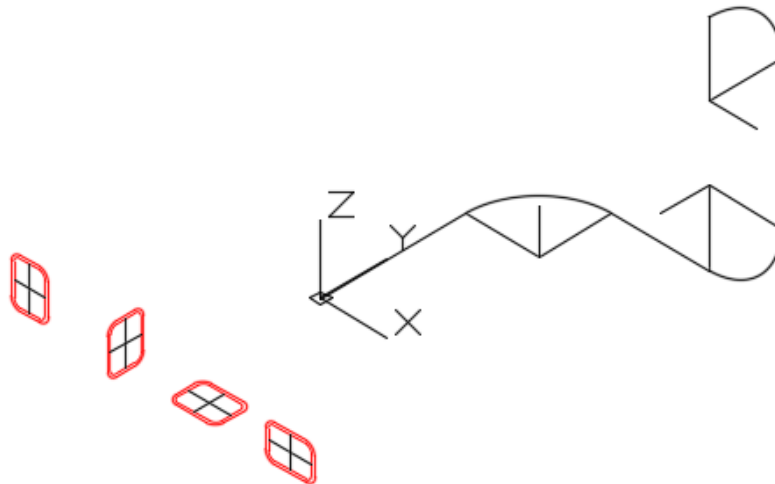

Figure Step 9
Step 9 Your drawing should appear similar to the figure. (Figure Step 9)